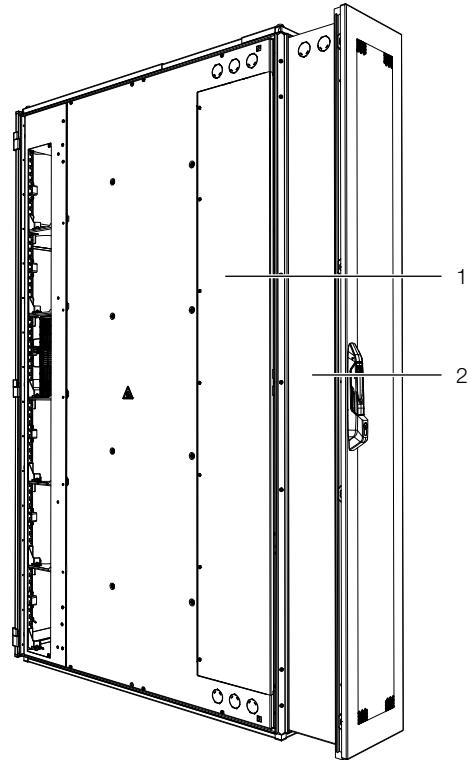

Fig. 35: Adaptor on the LCP Inline
- Attach the adaptor (fig. 35, item 2) to the rear opening of the LCP Inline using four of the supplied screws (fig. 35, item 1) each on the left and right.